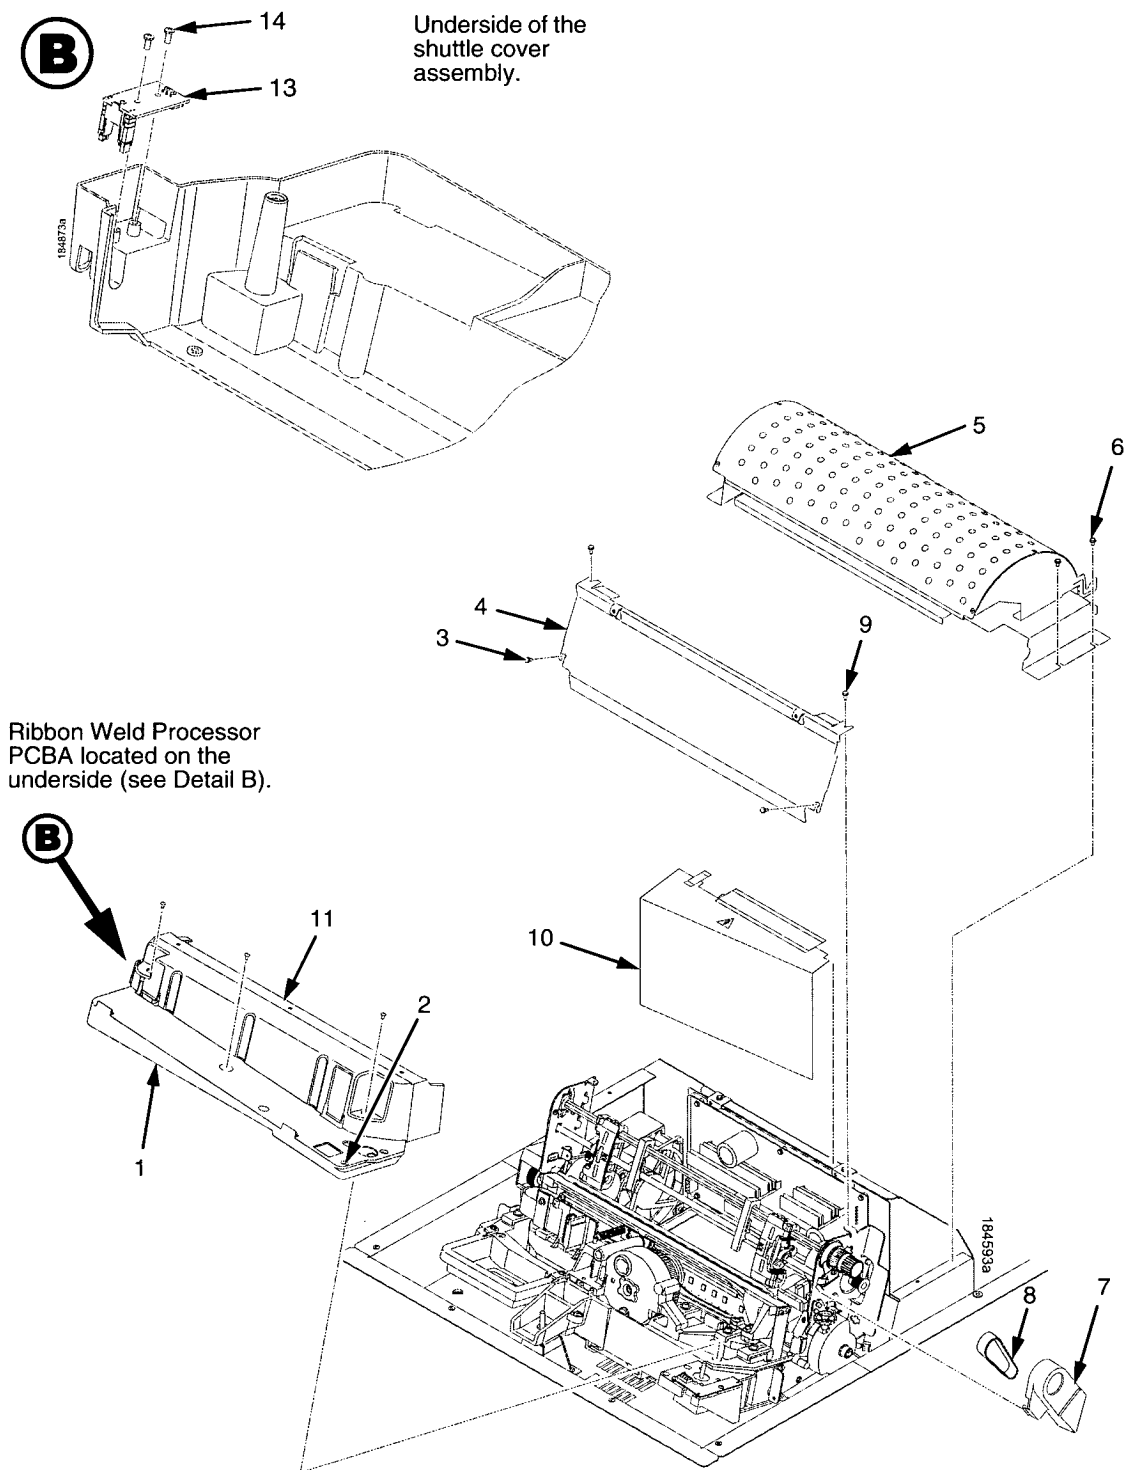
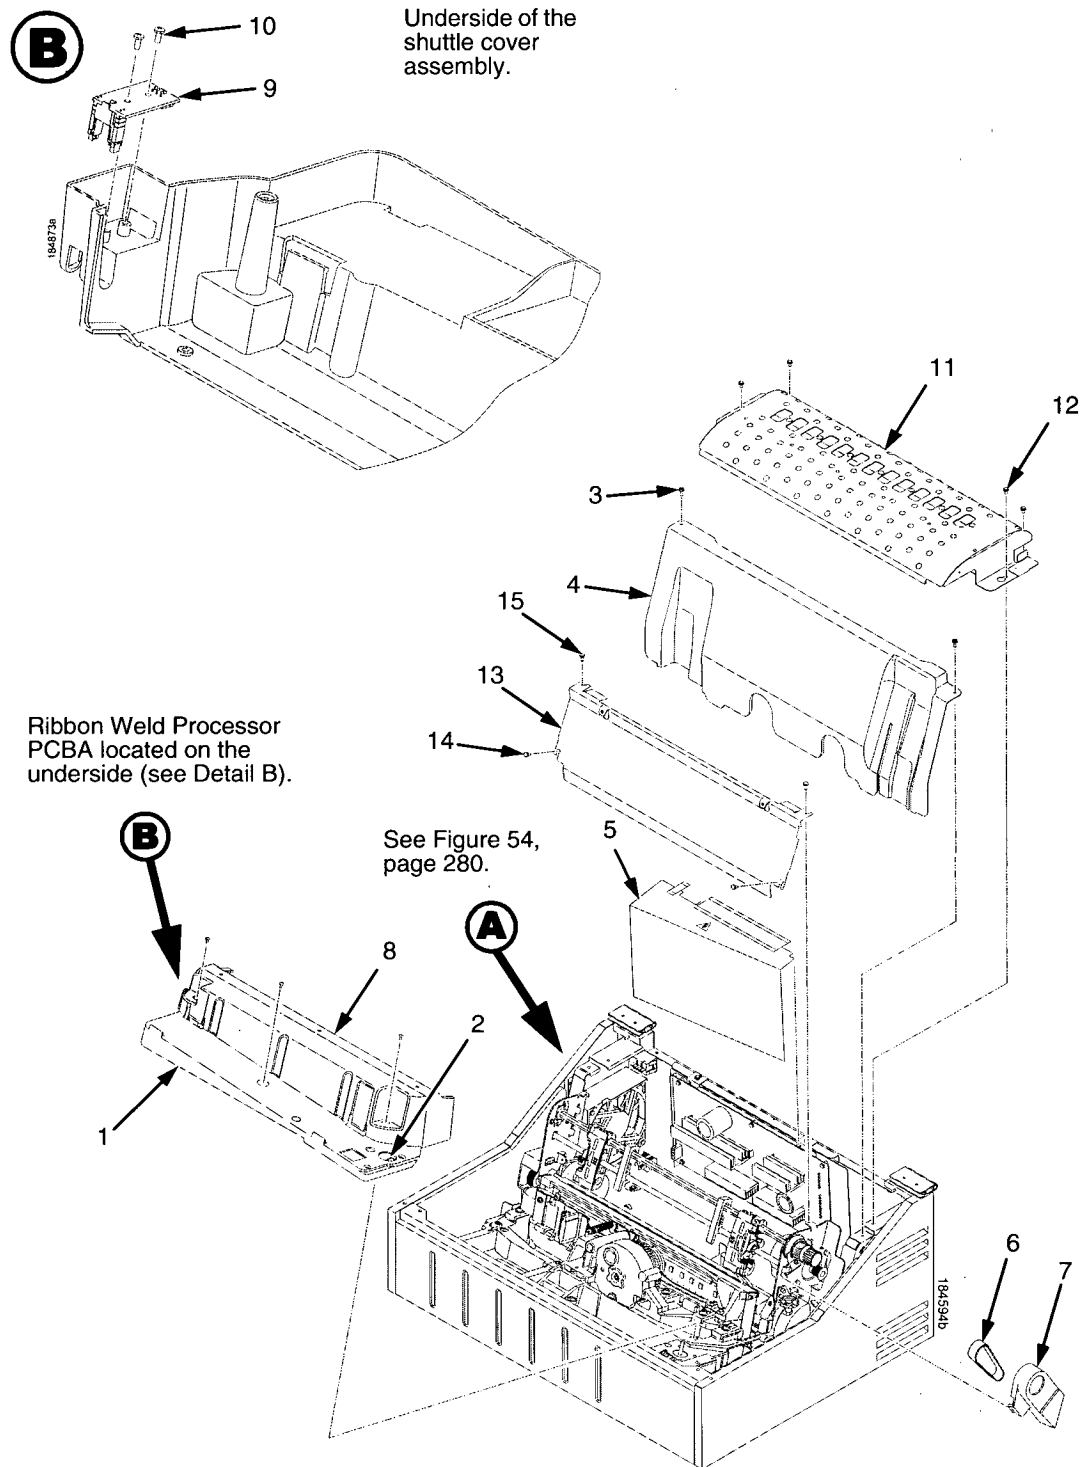

Figure 52. Inside Covers, Cabinet Models
Figure 53. Inside Covers and Card Cage, Pedestal Models
**IMPORTANT:** To preserve correct alignment of the side plates, the barrier panel must remain installed and fastened if the splined or support shafts are removed or replaced. The barrier panel is shown in Figure 52 and Figure 53.